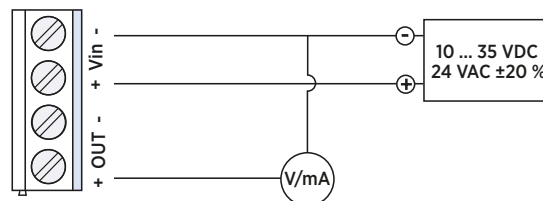

Figure 3 Wiring for 3-wire Output
- 3-wire output: see Figure 3 (page 2). Provide the required supply voltage according to the output type: